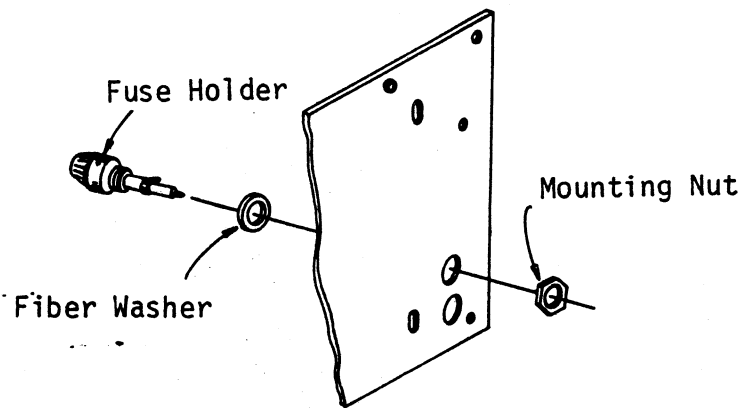

Figure 5-53. Fuse Holder Installation
(Figure 5-53)
- ✓ 1. Secure the fuse holder (Bag 2) into the hole provided on the back panel using a fiber washer and mounting nut as shown in Figure 5-53.